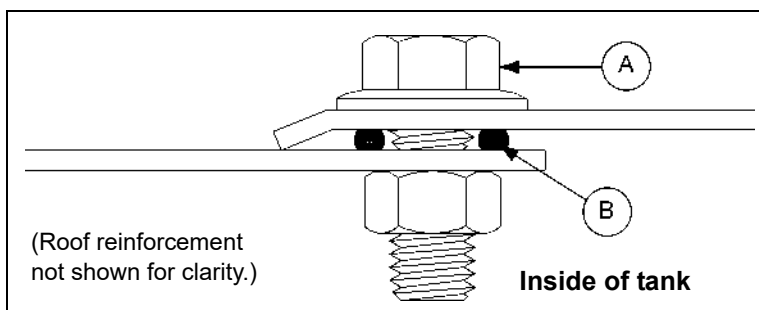

Figure 7A Roof Sheet Overlap Detail
NOTE: The roof and sidewall ladders are centered between seams. When placing the roof panel, the one edge is bent down. This edge is to be placed on the outside of other roof panel to form a tight seal. (See Figure 7A.) Be sure to apply two (2) strips of caulking on all seams.